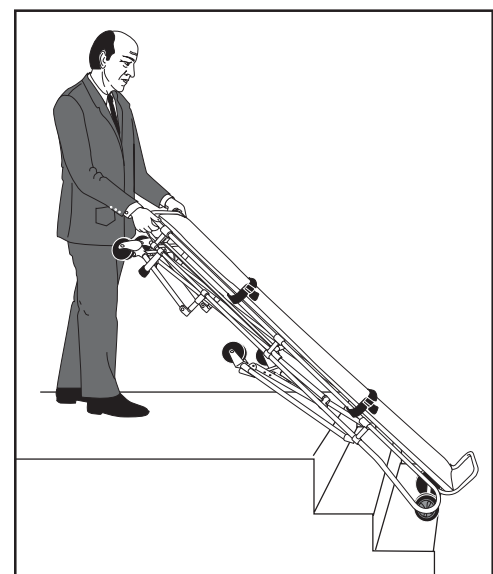

Figure 7 - Maneuvering the Cot On Stairs
2. Lift the operator end of the cot and roll the cot on its loading wheels. (Figure 7).